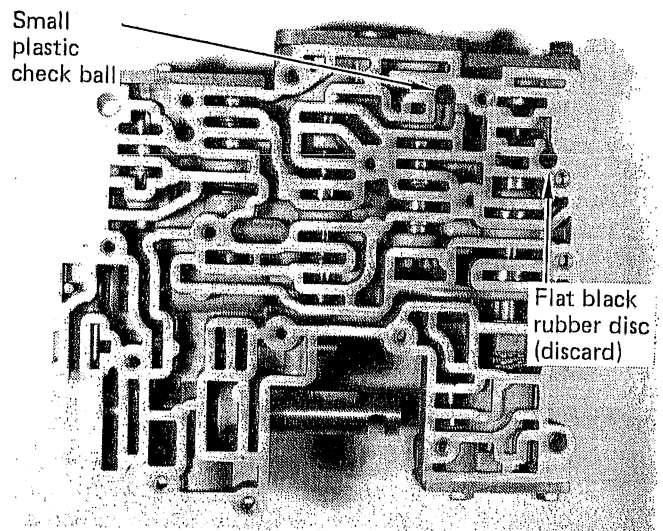

FIGURE 6
STEP 8. Lift the transfer plate assembly off the casting. There is a small plastic check ball and a flat black rubber disc in the **casting**. (See Fig. 6) Remove the plastic check ball and set it aside. Discard the flat black rubber disc. Set the **transfer plate** assembly aside.
STEP 11. Lay casting on bench with passages facing up. Install plastic ball in passage indicated in Figure 6. Set the casting aside.
STEP 16. Install transfer plate assembly onto casting. Make sure casting check ball is in place. (See Fig. 6) Install seven medium length valve body bolts in place. Tighten finger tight. The casting and transfer plate should be flat against the separator plate. If it is not there is an interference problem that must be corrected.